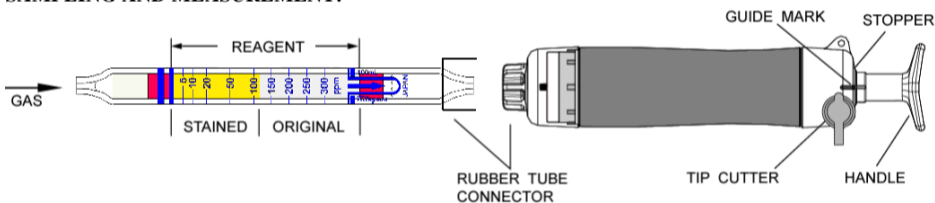

Fig.1
- ② Insert the detector tube into the aspirating pump securely as shown in Fig.1. (Arrow mark shall point to the pump.)
- ③ Align the guide marks on the shaft and stopper of the aspirating pump.
- ④ Pull the pump handle at a full stroke until it locks and wait for 1 minutes or until the completion of sampling is confirmed with the flow indicator of the pump (See descriptions about the flow indicator in the instruction manual of the pump).
- ⑤ On completion of sampling, read the scale at the maximum point of the stained layer.
- ⑥ When the concentration is below the scale range, 2 pump strokes can be used to determine concentrations of 2.5 to 150 ppm.